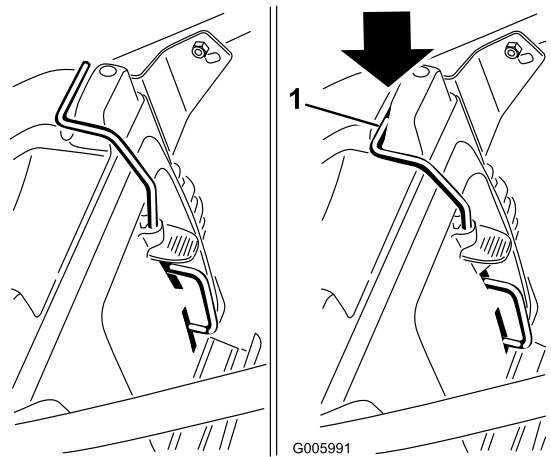

Figure 18
1. Install the recycle plug (Figure 18) or the grass bag (Figure 19) on the machine.